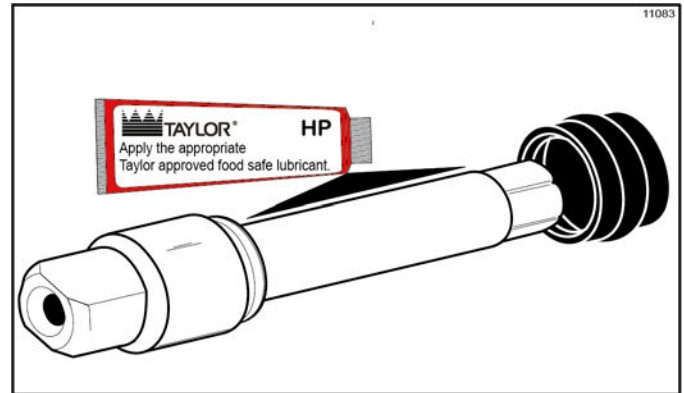

Figure 6-18
1. Lubricate the groove on the soft serve beater driveshaft before installing. Slide the beater driveshaft boot seal over the small end of the beater driveshaft and engage into the groove on the shaft. Heavily lubricate the inside portion of the boot seal and lubricate the flat end of the boot seal that comes in contact with the rear shell bearing. Apply an even coat of lubricant to the shaft. **Do not** lubricate the hex end. (See Figure 6-18.)